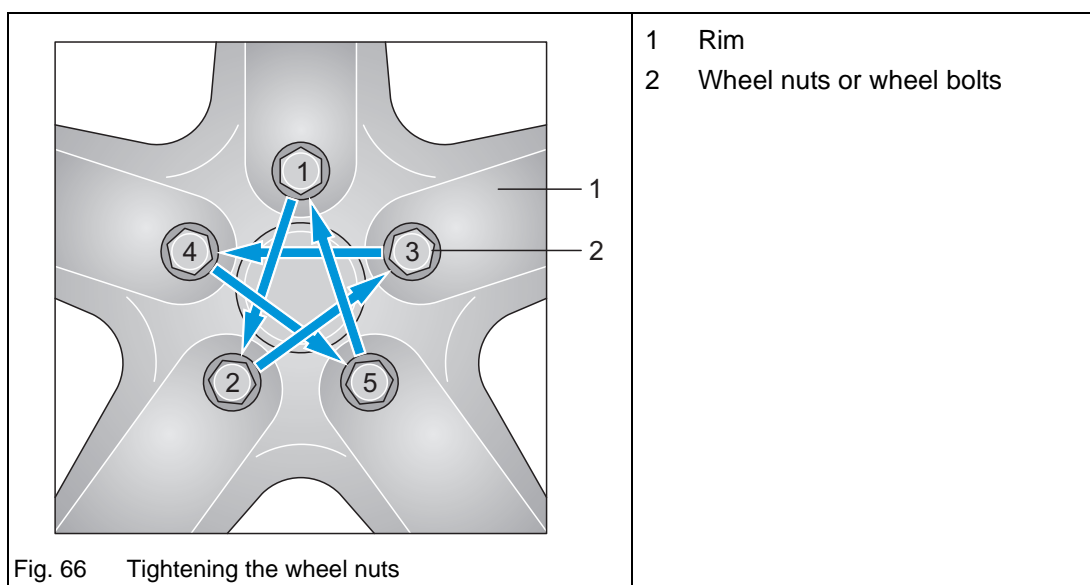

Fig. 66 Tightening the wheel nuts
- ➔ Tighten the wheel nuts or wheel bolts (Fig. 66/2) in the sequence 1 - 2 - 3 - 4 - 5.